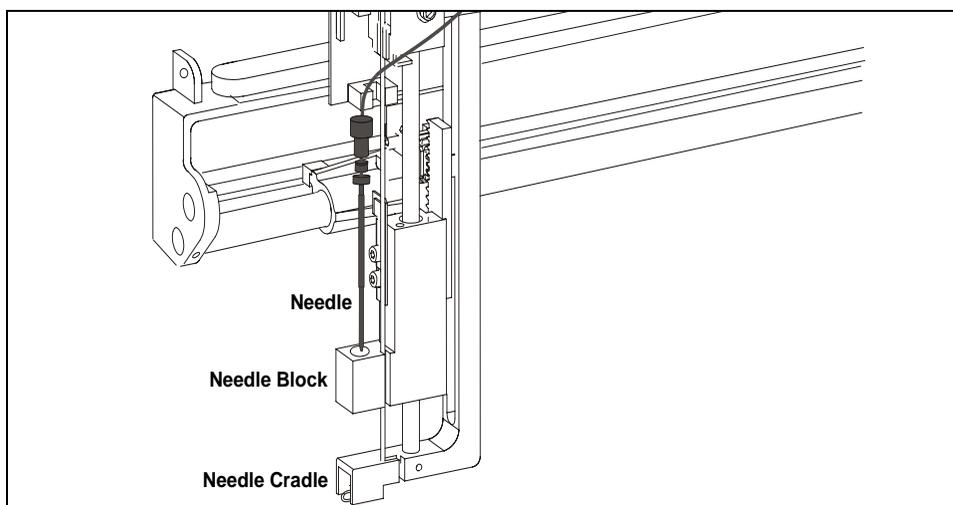

Figure 5-8. Installing the Needle in the Cradle
2. From the top, carefully insert the needle into the needle block (see Figure 5-8). Make sure the needle is vertical and centered so that it goes through the opening inside the block.